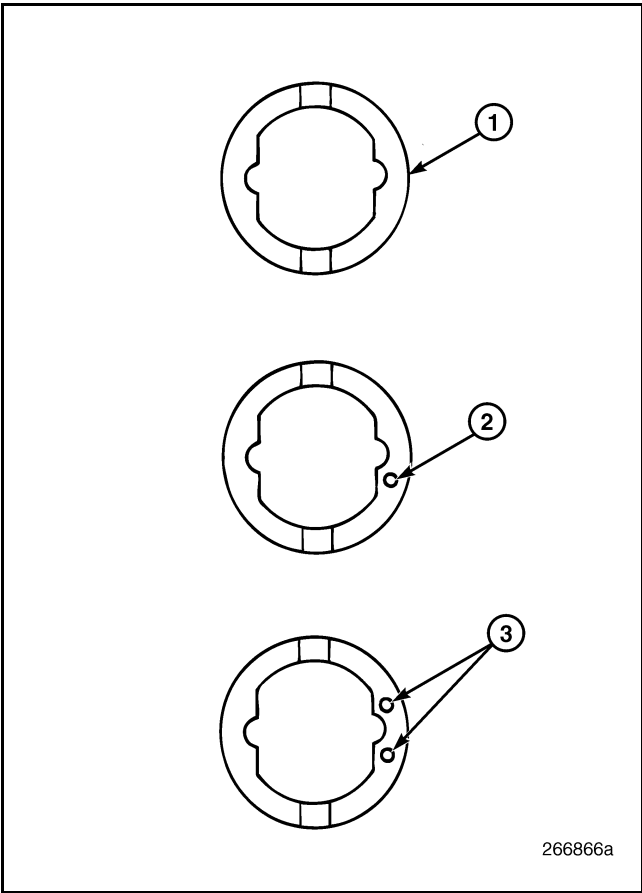

Figure 195 — Available H-Ring Sizes
- Check the fit of a **new** “P2” H-ring (+0.0015 inch [+0.0038 mm] oversize). If it is a press-fit, install it. The P2 can be identified by a single dot formed into the bottom surface next to the flat as shown in Figure 195.